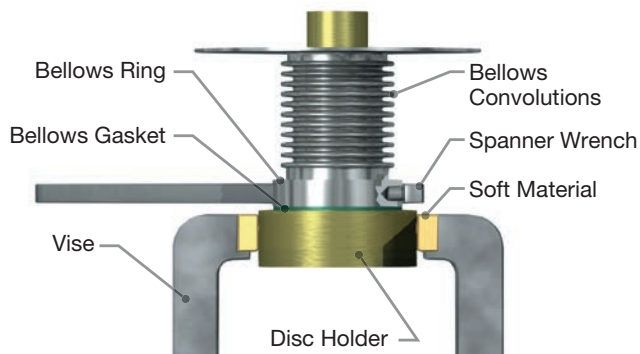

Figure 17: Removing the Bellows Ring
The bellows convolutions (see Figure 17) are very thin and fragile. Take care to protect them from damage.
11. Remove the guide (9) from the disc holder (8). (For restricted lift valves, see Checking Lift on Restricted Lift Valves.) For V and W orifice unbolt the bellows from guide before guide removal.
12. For D through U orifice bellows valves (see Figure 7), the bellows is attached to the disc holder (8) by right-hand threads. Use a special spanner wrench on the bellows ring to remove it by turning counterclockwise (see Figure 17).